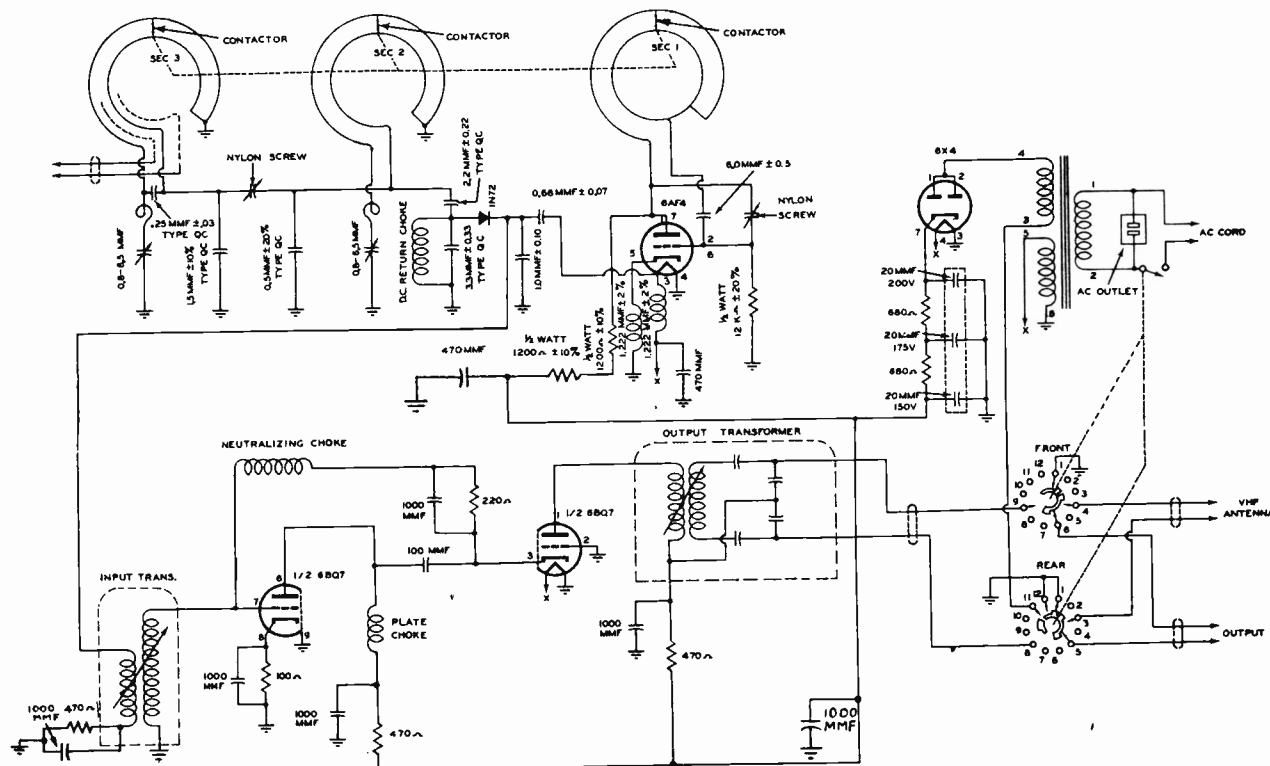

Fig. 5. Mallory uhf converter schematic diagram.
Figure 5 is a schematic diagram of the complete converter. Note the balanced input and the capacitive coupling to the pre-selector. This unit has a preselector tuned circuit, a crystal mixer, a local oscillator and an i-f amplifier. This amplifier uses a grounded cathode triode as input section with neutralization. This is coupled to a grounded grid triode output section. The output circuit uses a double-tuned transformer with a 12-mc bandwidth having a gain of approximately 6. Because of the conversion loss, however, the overall unit gain of the converter is approximately 1.
*The Stromberg-Carlson Converter.* Another example of the use of the Mallory uhf tuning is found in the Stromberg-Carlson converter shown in Fig. 6. The cabinet is 8 by 4 by 6 inches. The circuit for this unit closely resembles that shown in Fig. 5 ex-